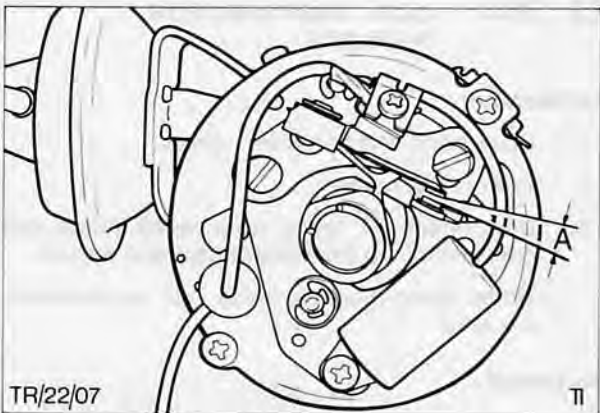

Fig. 55. Contact breaker points gap 'A'
6. Manually turn engine until heel on contact breakers is on top of cam. Adjust to give a clearance as specified in Technical Data, and tighten retaining screw, Fig. 55.